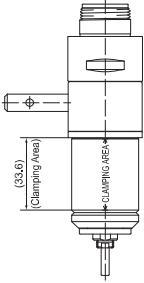

Fig. 7
- 1 When mounting a Spindle, refer to the Clamping Area etched on the Spindle (Fig. 7).